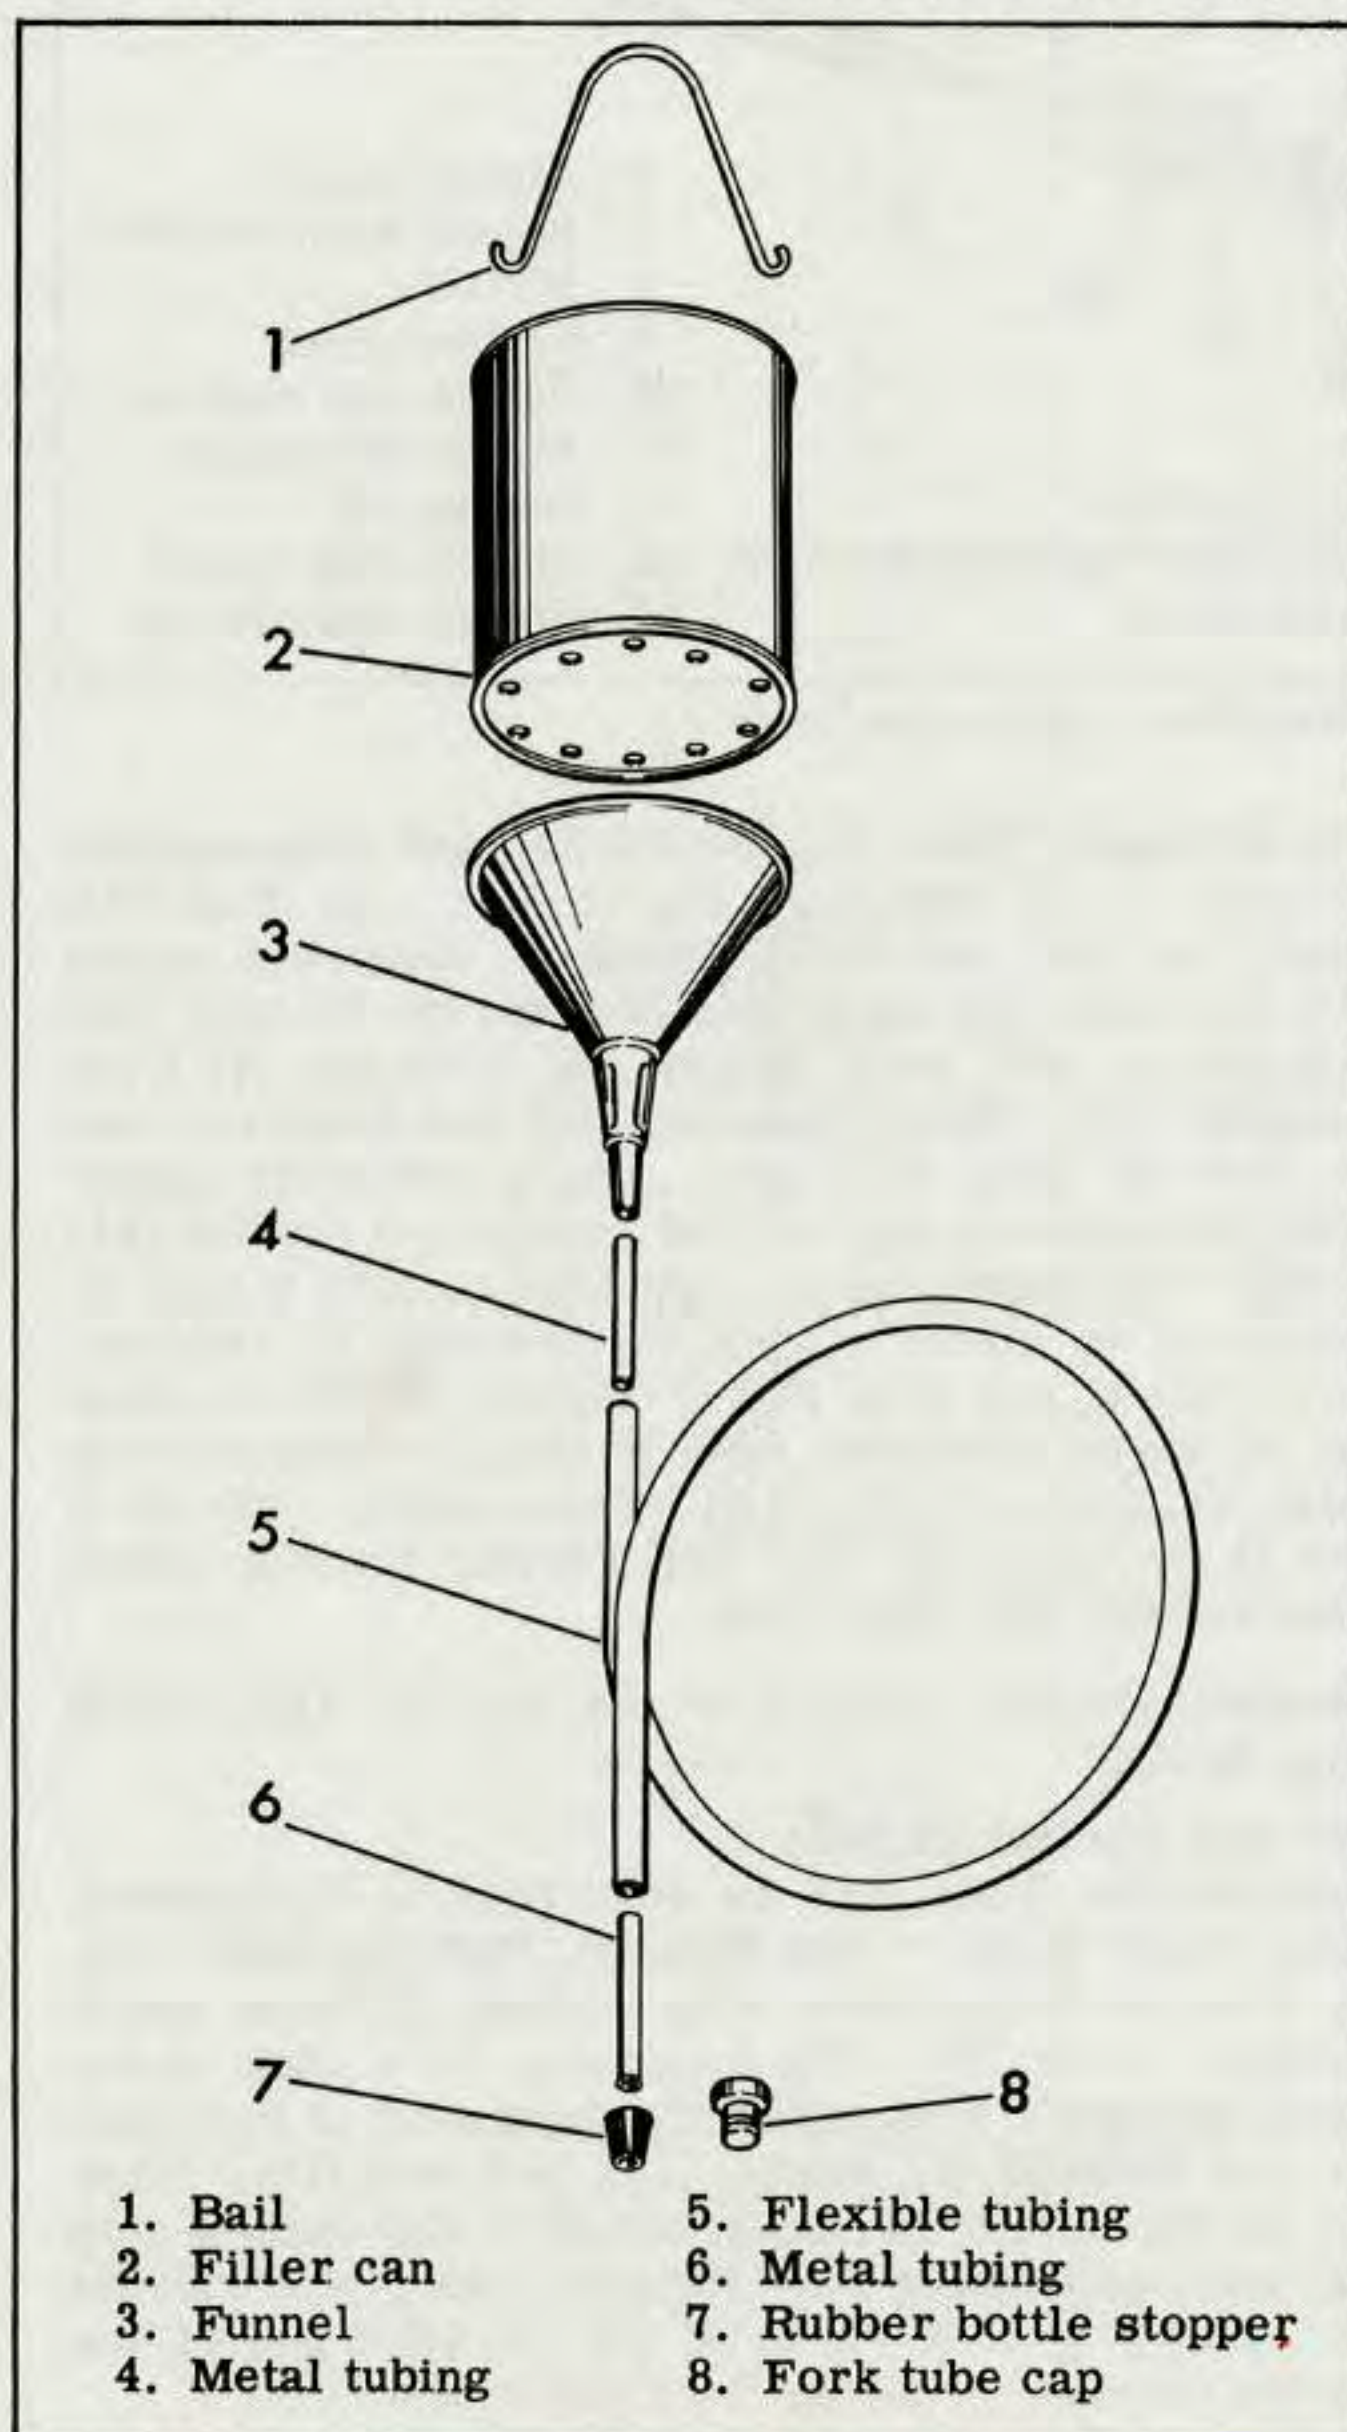

Figure 2F-22. Fork Filler Can Components - Exploded View
ing malfunctions previously covered, disassemble fork as described in "Disassembling Front Fork Shock Absorber." Inspect shock absorber giving particular attention to the following parts (see Fig. 2F-24): 1967 and earlier models: Check fork piston rod nut (3) for looseness on rod (12). Make sure recoil valve washer is not cocked in chamfer of piston spacer (6). Examine piston valve surface (9) for excessive wear and looseness in tube (2). Check piston rod guide (11) for excessive wear and looseness on rod (12). 1968 models: Check fit of damper piston (6) in fork tube (8A) and fit on shock absorber tube (7). Check seating of washer (3) on upper and lower valve body faces. Replace worn or damaged parts.
See Fig. 2F-21. Examine fork tube (8 or 8A) for scoring and badly worn sliding surface. Inspect fork slider bushings (12A) in fork slider (12) for wear and scoring. Insert tube (8 or 8A) in fork slider (12), and work up and down. If tube has appreciable play in